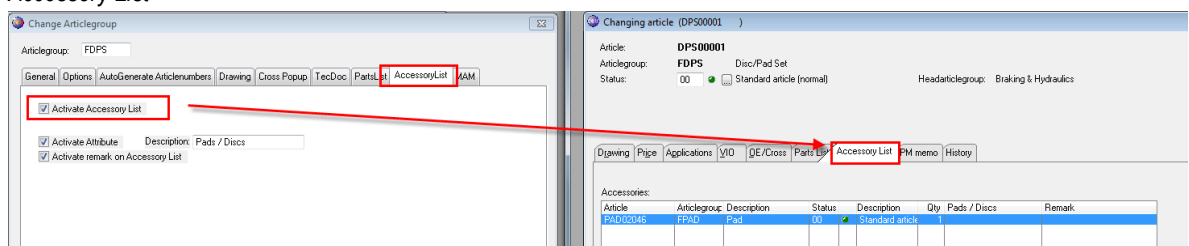

Figure 7: Accessory List
- **Activate Accessory List:** by checking this checkbox the tab **Accessory List** is activated in CCU. Also see *Figure 7: Accessory List*